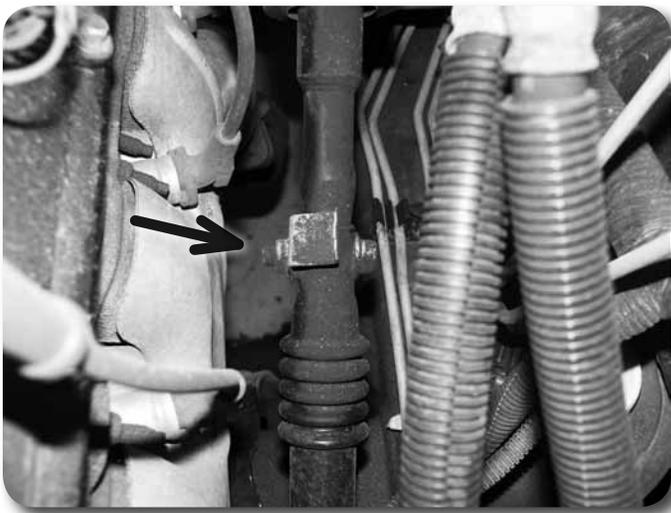

Figure 7
10. Lock the steering wheel. Locate the bolt that connects the upper steering column to the lower steering shaft **Figure 7**. Make a mark on each half for alignment during installation. Remove the bolt and separate the shafts by sliding the steering column up off the lower shaft. Save hardware.